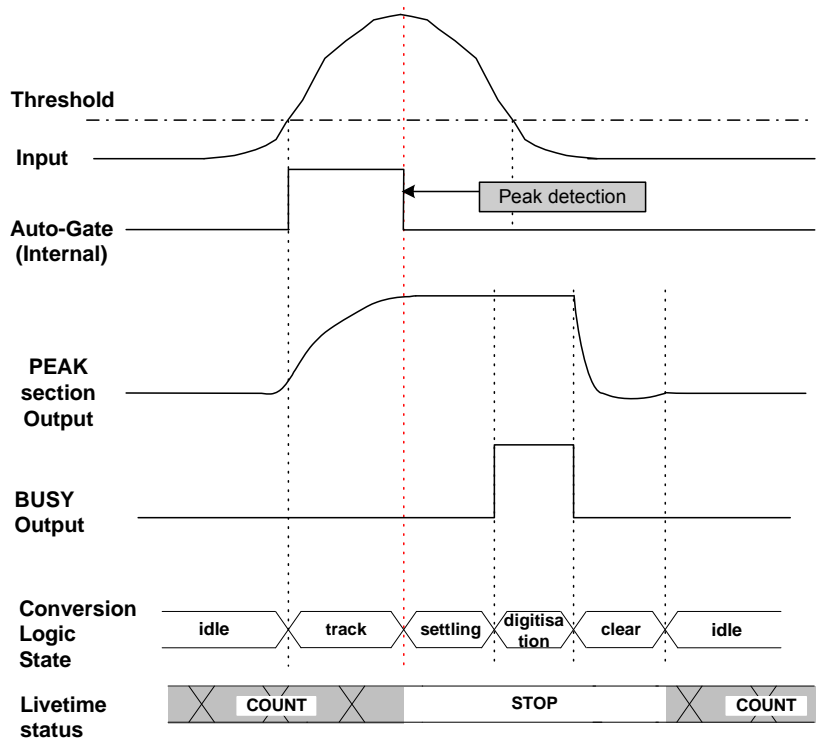

Fig. 2.8: Livetime status (Control Register <0> = 1 and Auto Gate mode)
- in Auto Gate mode (see Fig. 2.8):